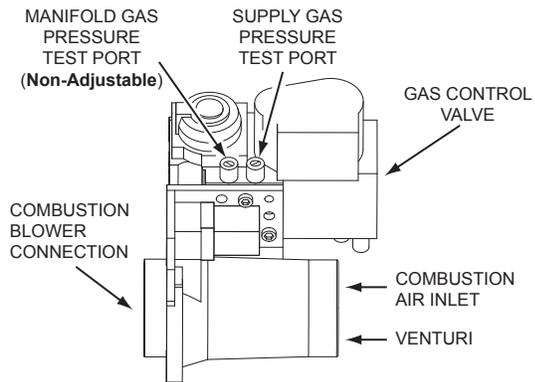
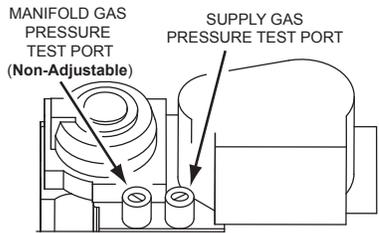

Figure 43. Gas Control Valve/Venturi Assembly Top View
Figure 44. Gas Control Valve Top Detail View
4. Wait five (5) minutes for any residual gas to clear.
5. Connect the manometer to the supply gas pressure port on the gas control valve. See *Figure 43* and *Figure 44* (page 50).
6. On the water heaters covered by this manual there are test ports for supply and manifold gas pressure readings on the gas control valve. Using a small flat tip pocket screw driver - open the needle valve inside the supply gas pressure test port one full turn only; turn the needle valve screw counter-clockwise to open the valve. Slide the manometer sensing tube over the top of the test port, see *Figure 43* and *Figure 44* (page 50).